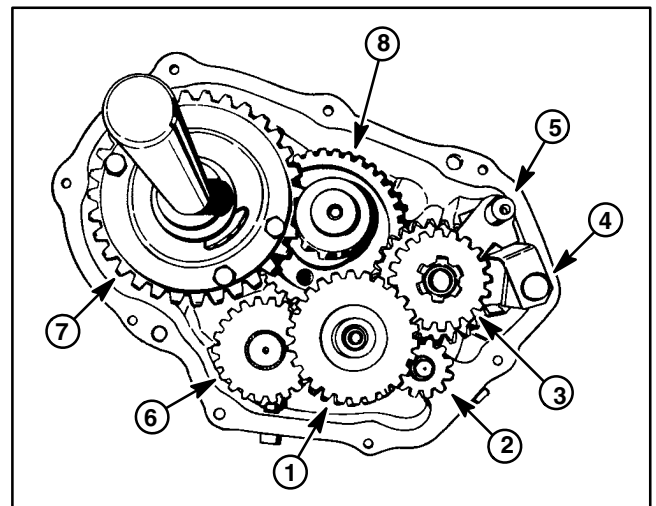

Figure 11
**NOTE:** Refer to Figure 11 for transaxle gear and shaft identification during disassembly.
8. Remove thrust washer (item 16) and three gear cluster (item 36) from the brake shaft.